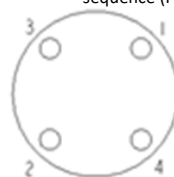

Fig. 1: Bolt Tightening Sequence
- 1.2.4.3.2. Flange bolts should be tight enough to compress the gasket and make a good seal, without distorting or putting excessive stress on the flanges. Suitable washers should be used between the bolt head and flange and the nut and flange. Bolts should be tightened in alternating sequence (Figure 1). See Table 1 for recommended torque.